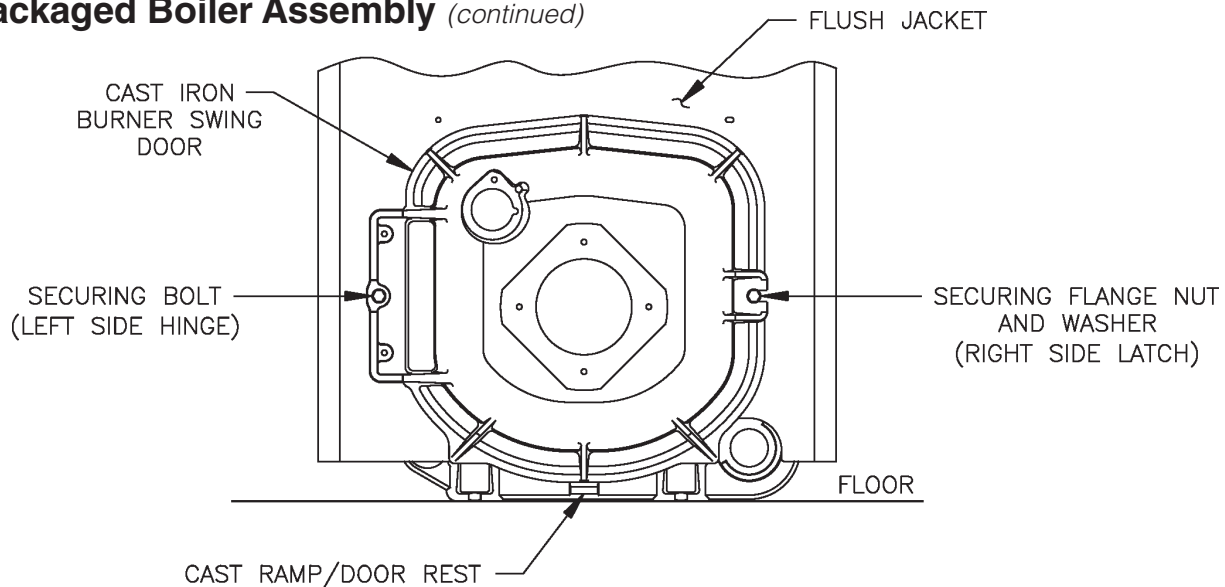

Figure 12A: Partial Front View - Burner Swing Door Mounted to Boiler - Fully Closed and Secured
4. Use the following procedure to properly close and secure the burner swing door after it has been removed and re-installed for Field Assembly (Knockdown Boiler) or opened for inspection, cleaning or field service (refer to Figures 12A and 12B):
Step 1. Lift the door up onto the built-in cast ramp/door rest (protruding from the bottom of the front section casting - see Figure 12A), while rotating the articulated hinge and door to the right and engaging the slot (on right side of door) unto the 5/16" stud protruding from the front section.
1. **TO OPEN BURNER SWING DOOR** (see Figures 12A and 12B).
3. To close Burner Swing Door (see Figures 12A and 12B):
Step 2. Grasp the door's left side hinge flange in your left hand and place your right hand under the burner air tube to lift upward. Lift the door up unto the built-in cast ramp/door rest (protruding from the bottom of the front section casting - see Figure 12A), while rotating the articulated hinge and door to the right and engaging the slot (on right side of door) unto the 5/16" stud protruding from the front section.